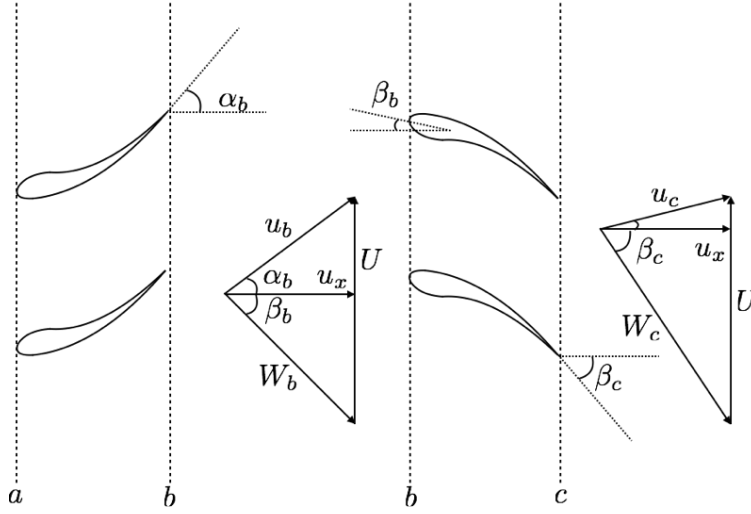

Figure 1: Turbine stage stator-rotor combination and velocity triangles.
a) The velocity triangles are shown in Figure 1.